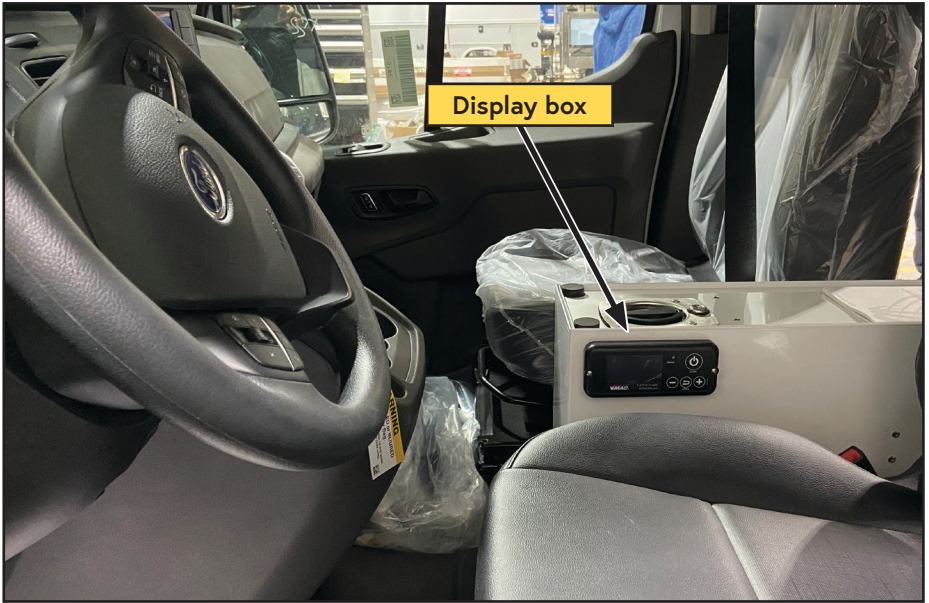

Figure 47 — Install display box
- Mount the display box in a convenient location (such as the center console or bulkhead) (Figure 47).